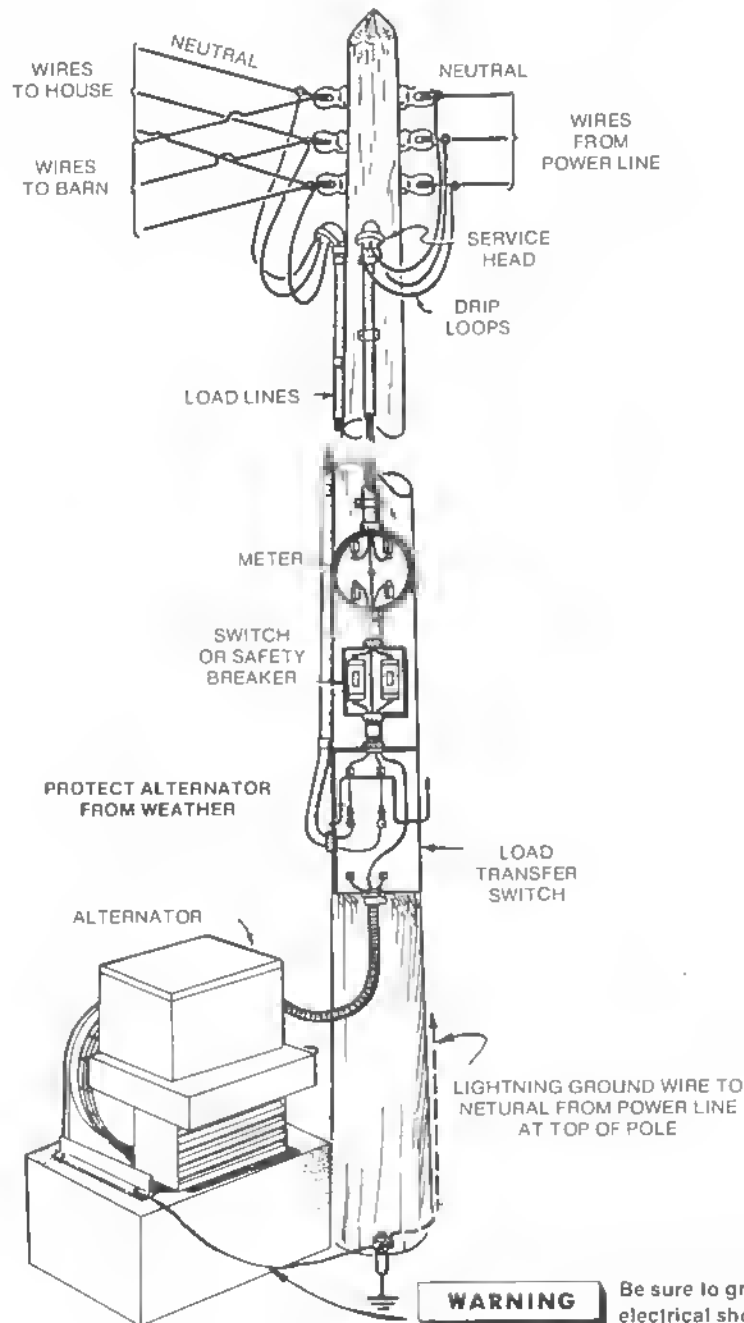
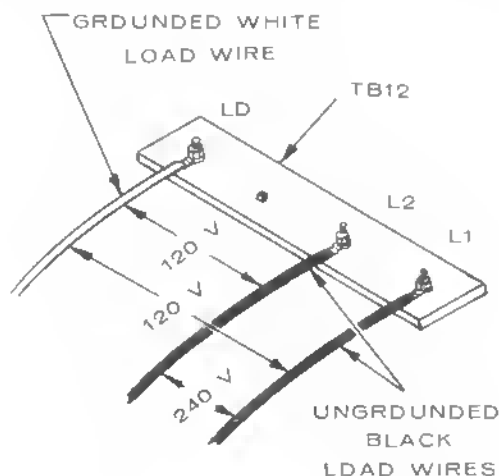
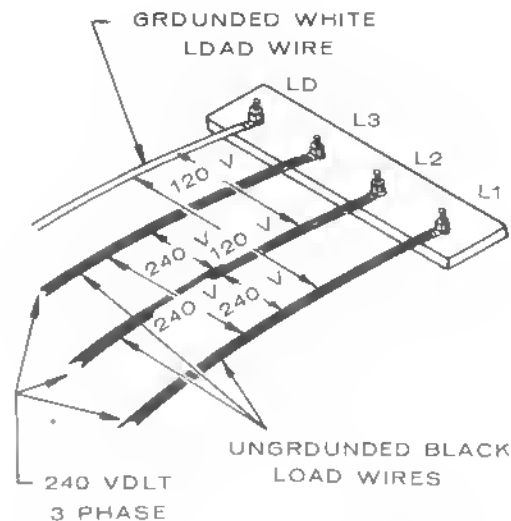

FIGURE 3. TYPICAL SINGLE-PHASE ALTERNATOR INSTALLATION
FIGURE 4. 120/240-VOLT, SINGLE-PHASE CONNECTIONS
FIGURE 5. 120/240-VOLT, THREE-PHASE CONNECTIONS
Figure 3 shows a typical, single-phase installation of an alternator and a load transfer switch where the neutral is not switched. To gain access to the load connection bars of the alternator, open the two latches on the front of the control box. Then lift the cover off. Figure 4 shows the single-phase, three-wire connections; Figure 5 shows the three-phase, four-wire connections. Fasten the load wires to the connection bars with the capscrews and nuts. Knockouts are provided on each side of the control box.
Terminal L0 is the grounded (neutral) terminal. For 120-volt current, connect the "hot" load wire to either the L1 or L2 terminal (Figure 4). Connect the neutral load wire to the L0 terminal. Two 120-volt circuits are thus available, with not more than 1/2 the alternator rated capacity available on each circuit. Balance the load as closely as possible. If using both 120- and 240-volt current at the same time, use care not to overload either circuit.
1. the lightning ground rod at the pole (grounds neutral from power line at top of pole) as shown in Figure 3, or
Install the load transfer switch close to the main line switch, and between the main line switch and the load. The load wires must connect to the center terminals of the switch (Figure 3). The alternator leads and main power leads must connect at opposite ends of the switch.
The alternator and load transfer switches should be located close to the power line transformer which carries the heavier load. Separate power lines must be installed to carry power from the alternator to the lighter loads. However, care must be exercised to ensure that the generator is not connected to multiple grounds in this type of application. For example, if the ground wire for the three-phase system was at L2 and the ground wire of the single-phase system was at L0 (see Figure 5), this multiple-ground condition would damage the generator windings.